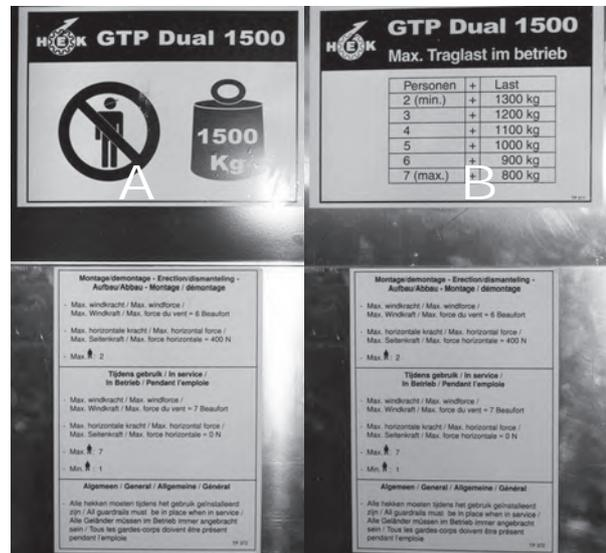

Fig.7-03 Identification plate transport platform / material hoist
2. Put the identification plate (fig.7-03) in the correct position (A = material hoist / B = transport platform).